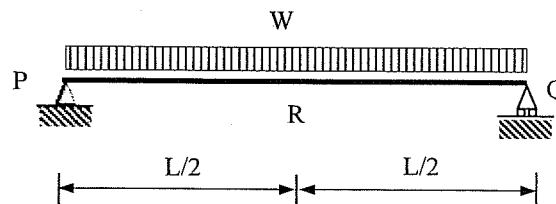

Figure Q1(b)
- (b) A simply supported beam (PQ) is uniformly loaded as shown in Figure Q1(b). Using **Moment Area Method**, determine the vertical deflection at the point R of the beam. (EI is constant)